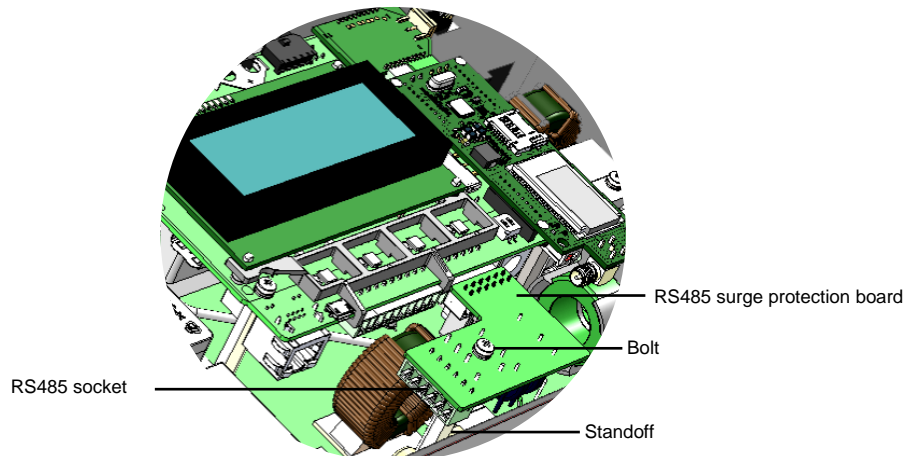

Figure 4: RS485 surge protection board installed
- 6 Insert the surge protection board's connectors into the communication board socket, applying light pressure (see Figure 4). Make sure the connectors are firmly inserted.